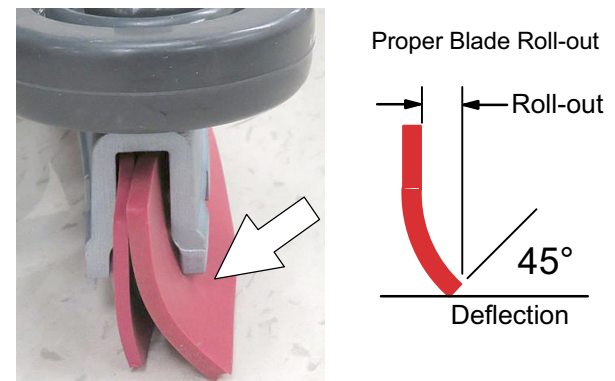

FIG. 8
4. Check squeegee blade for proper roll-out. Lower squeegee to floor and propel machine forward for a short distance. The rear blade should roll-out evenly across the full length of the squeegee at a 45° deflection (Figure 8).